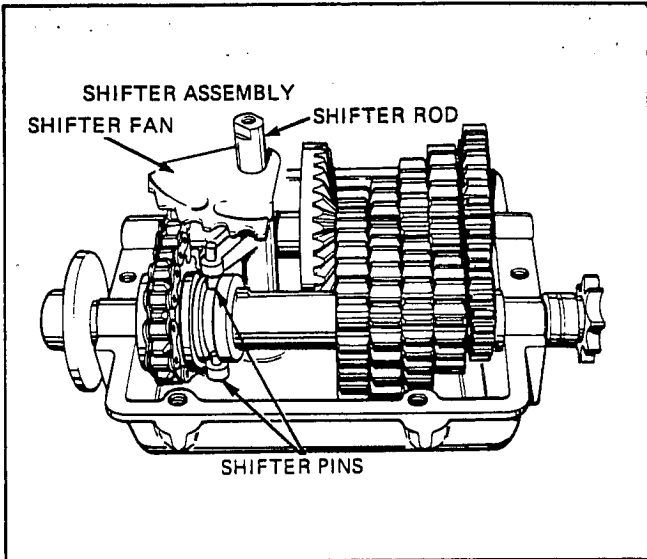

Figure 2-43
4. Remove shifter assembly (includes shaft, pins and fan) from transmission case by lifting shaft out of case. See Figure 2-43.
5. Remove gear and shaft assemblies from case half of the transmission by lifting the two shafts out of the bearing supports taking care not to disturb drive chain relationship with sprockets. See Figures 2-43 and 2-44.